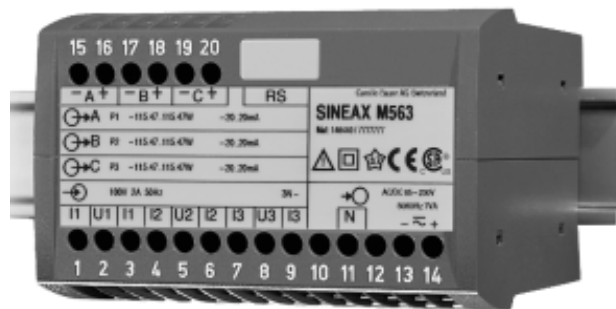

Fig. 1. SINEAX M 563 transducer in housing P20/105 clipped onto a top-hat rail.
**SINEAX M 563** (Fig. 1) is a programmable transducer with a **RS 232 C interface**. It supervises any 3 variables of an electrical power system **simultaneously** and generates 3 electrically insulated analogue output signals.